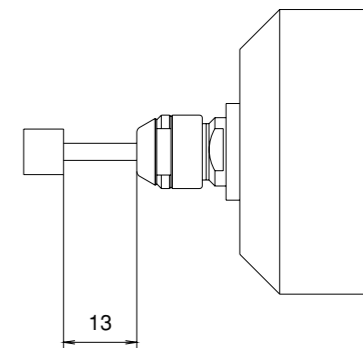

Fig. 11
- ② Do not extend a stemmed grindstone greater than 13 mm from the chuck. (See Fig.11 and Table 1.)